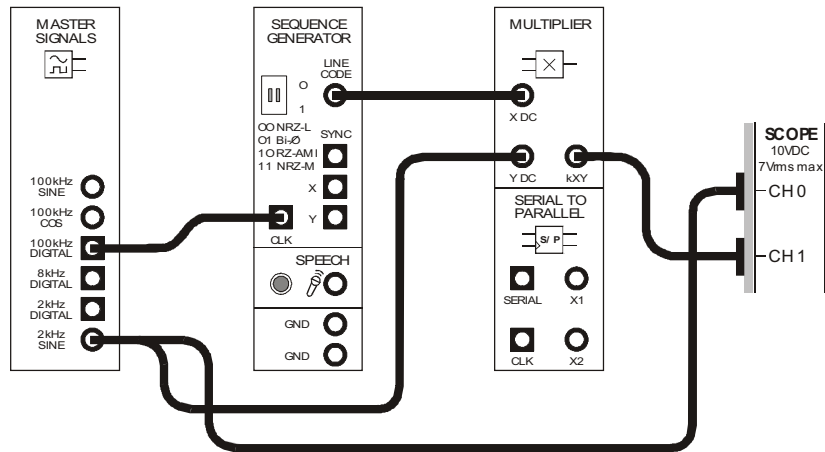

Figure 1
10. Connect the set-up shown in Figure 1 below.